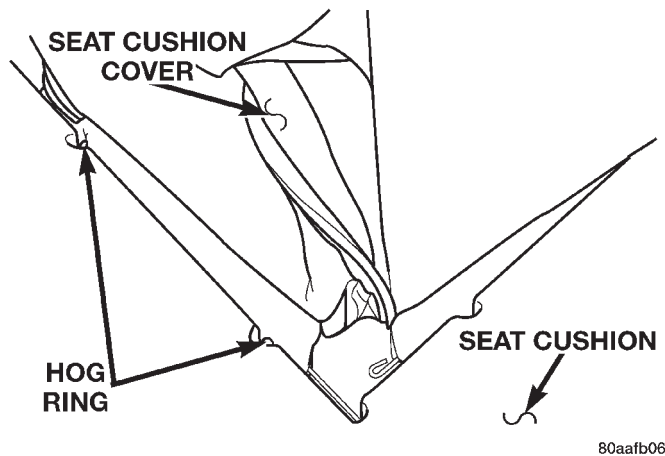

Fig. 12 Seat Cushion Cover Hog Rings
- (1) Remove seat from vehicle.
- (2) Remove side shield trim cover.
- (3) Remove seatback.
- (4) With the cushion side down, disengage the forward, rearward and inboard J-straps.
- (5) Disengage the clips attaching the outboard side of the cover to the cushion frame.
- (6) Turn the cushion over and roll the cover off the cushion.
- (7) Remove the hog rings attaching the cover to the cushion support wires (Fig. 12).
- (8) Separate the cover from the cushion.